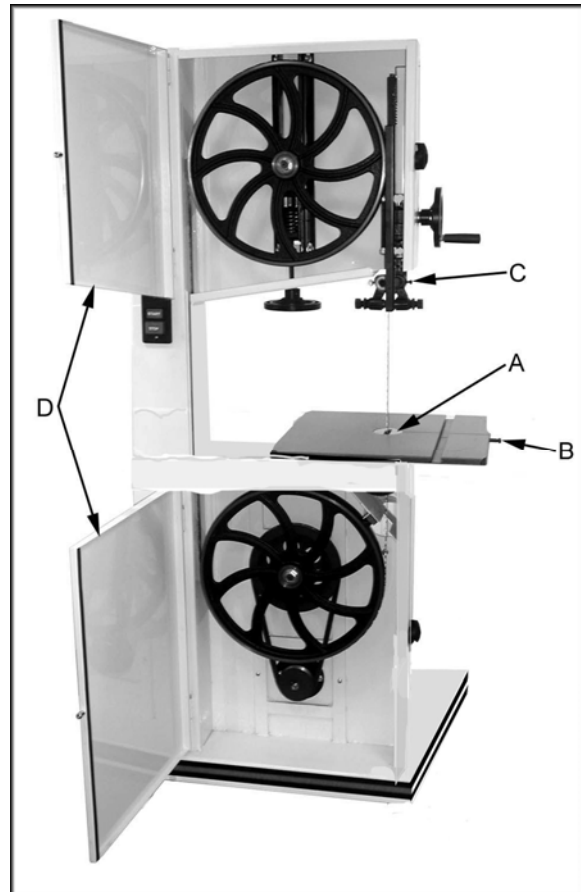

Figure 16
1. Remove the table insert (A, Fig. 16), and table pin (B, Fig. 16).
3. Loosen socket head cap screw (C, Fig. 16) and slide the blade guide assembly back as far as it will go.
4. Open both wheel covers (D, Fig. 16).